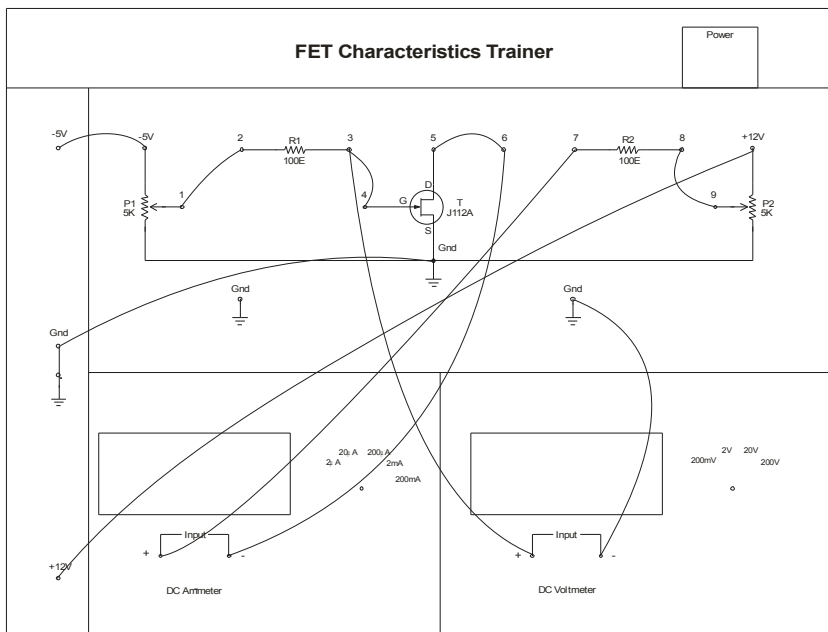

Figure 16
13. Plot a curve between input voltage V_{GS} and output current I_D at different constant values of output drain to source voltage as shown in Figure 16. Using suitable scale with the help of observation table 2. This curve is the required transfer characteristic.